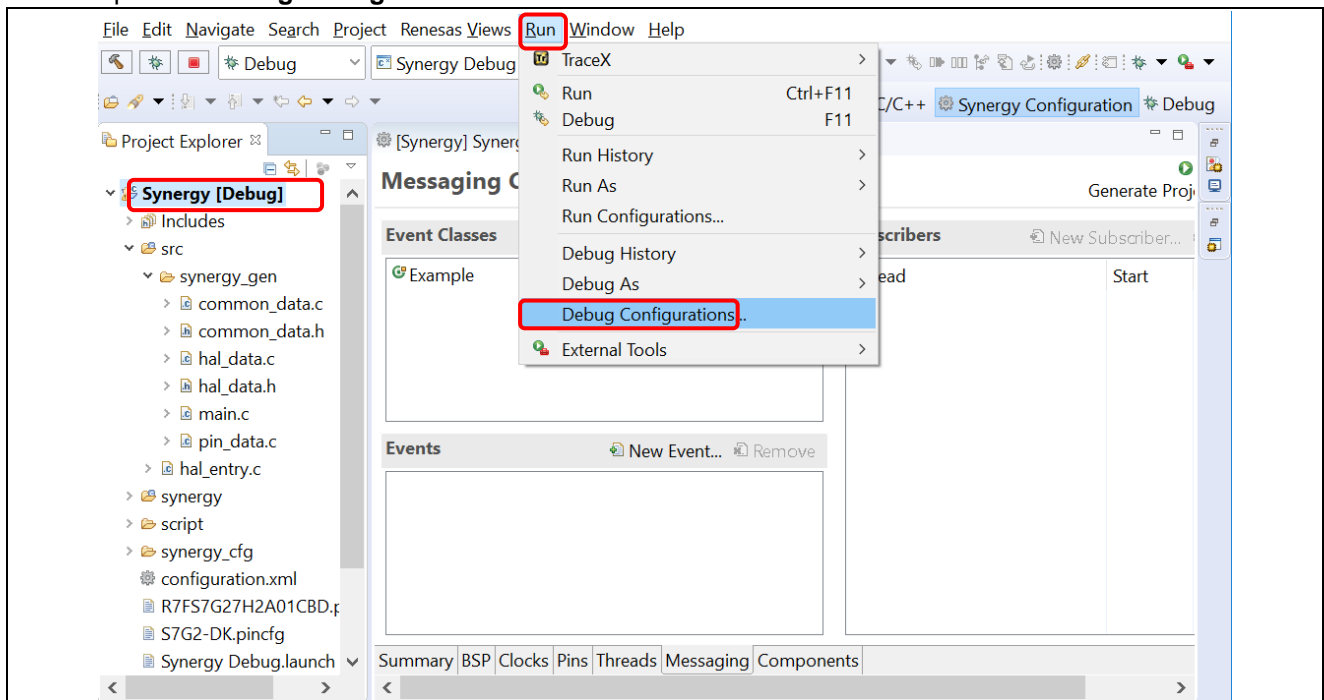

Figure 83. Debug – Opening the Debug Configurations Window
1. Open the Debug Configuration window (see Figure 83).
2. In the **Debug Configurations** window, select a debug configuration (for example, Synergy Debug) and click the  icon (which duplicates the currently selected launch configuration). A new debug launch configuration (for example, Synergy Debug (1)) is created.